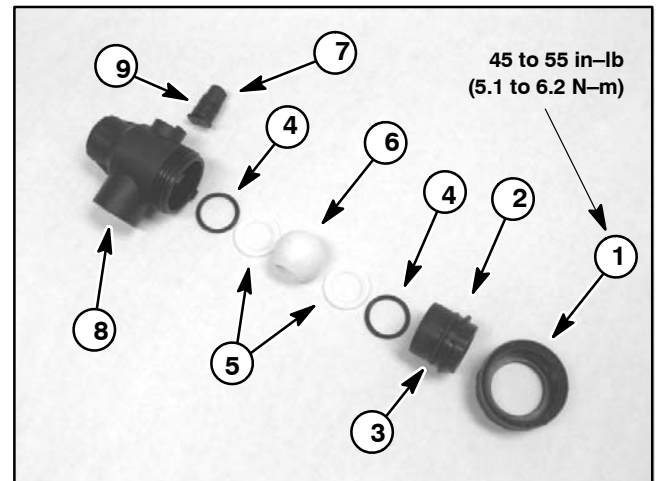

Figure 27
6. Remove knob (item 20) from lever (item 19).
7. Remove two (2) flange screws (item 16) that secure ball valve assembly to tank support.
8. Remove ball valve assembly from machine. Locate and retrieve rubber washers (item 6) that seal ports on ball valves to paint tank. Discard rubber washers.
10. If needed, disassemble ball valve using Fig. 27 as a guide.
1. If ball valves were disassembled, assemble ball valves using Fig. 27 as a guide. Torque nut 45 to 55 in-lb (5.1 to 6.2 N-m).